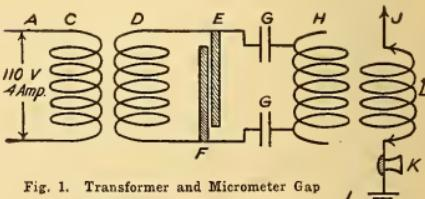

Fig. 1. Transformer and Micrometer Gap
A simple system which all amateurs owning a wireless station can install with no additional expense other than a common telephone transmitter, is shown in Figs. 1 and 2.
spot, the spark takes another spot along the bowed carbons, always finding a new and cool spot for the spark to take place. From the terminals (E) and (F), Fig. 1., condensers (G) each made of four glass plates 10 by 10 inches, are connected to the primary (H) of an oscillation inductance. The aerial (J) connects on one terminal of the secondary (I) while from the other a wire passes through a transmitter of any make and then to ground (L). In place of one transmitter, a number may be connected either in series or parallel.